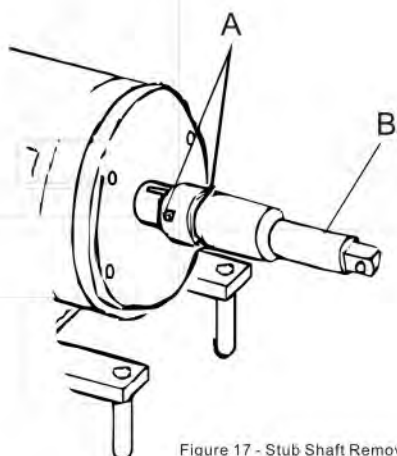

Figure 17 - Stub Shaft Removal
3.3 Loosen the two (2) set screws securing the stub-shaft to the motor shaft (See Figure 17 item A and B). Carefully remove the stubshaft. The stub-shaft is a tight fit, but can be removed by applying pressure around the periphery of the shaft with a pry-bar.